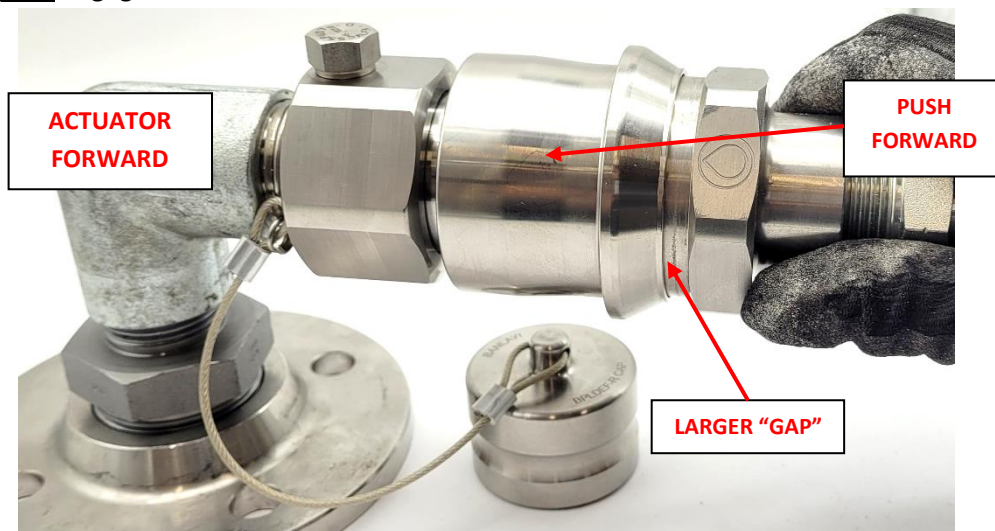

Figure 7 – "Push to Connect" - Couplers Connected
10. The ball lock mechanism is engaged once the Actuator moves into the fully forward position, creating a larger "gap" (clearance) between the rear of the Actuator and the Nozzle tail – refer Figure 7.